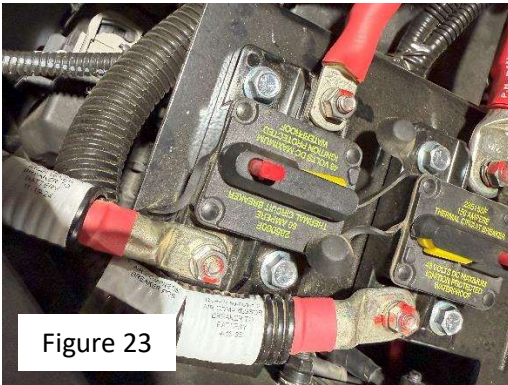

Figure 23
24. Re-Install two wires on breaker with the wire labeled "battery" towards the fender (Figure 23)